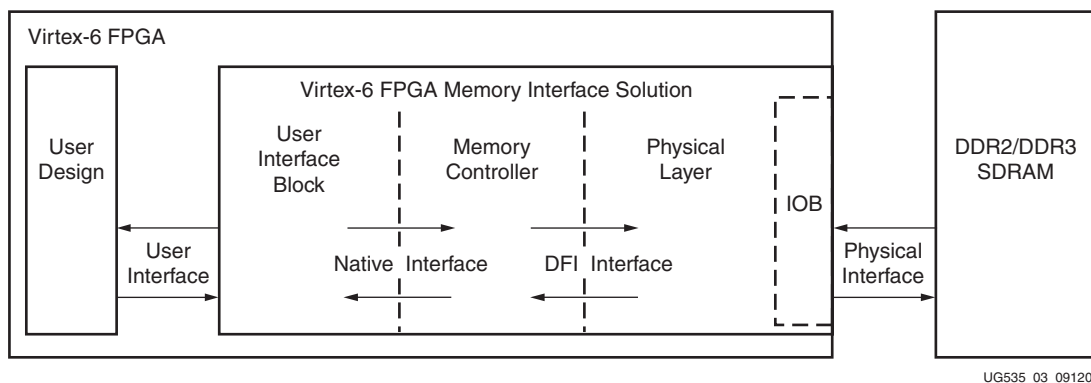

Figure 1-2: Virtex-6 FPGA Memory Interface Solution
The Virtex-6 FPGA memory interface solutions core (Figure 1-2) provides high-performance connections to DDR3 and DDR2 SDRAMs, and QDR II+ SRAM. The physical layer (PHY) side of the design is connected to the DDR2 or DDR3 SDRAM device via FPGA I/O blocks (IOBs) and the user interface (UI) side is connected to the user design via FPGA logic.